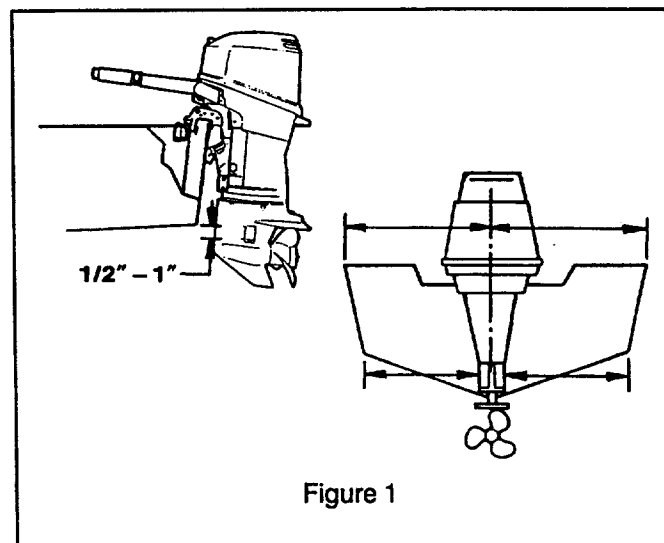

Figure 1
MOUNTING MOTOR (FIG. 1&2)
- Center the motor on the transom (Figure 1).